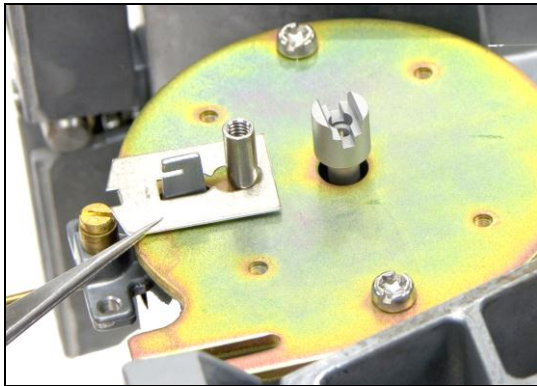

Figure 3-53. Up/Down Stop Plate.
19. Remove the Temperature Conductor, as shown in Figure 3-53.